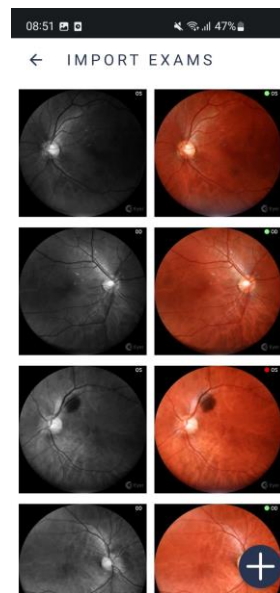

Figure 28 - Import exams screen
4. Select the desired images, figure 28 and 29